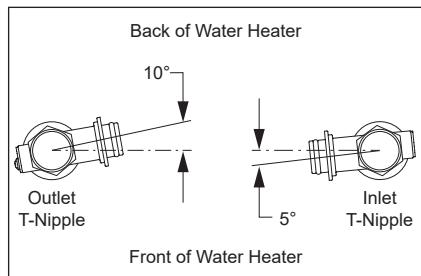

Figure 115 - Inlet and Outlet T-Nipple Orientation
**IMPORTANT:** Before removing the outlet t-nipple, observe the rotational orientation of the valve. Figure 115 below provides the factory installed offset between the t-nipples. T-nipples **MUST** be installed to the factory offset orientation to properly accommodate the Smart Valve and hose assembly. Failure to do so may result in leaks and potential property damage.
Hand tighten the outlet t-nipple to the tank nipple. Use a basin wrench to engage the hexagonal flats located at the top of the outlet t-nipple and tighten such that its orientation is angled 10° toward the back of the water heater as shown in Figure 115.